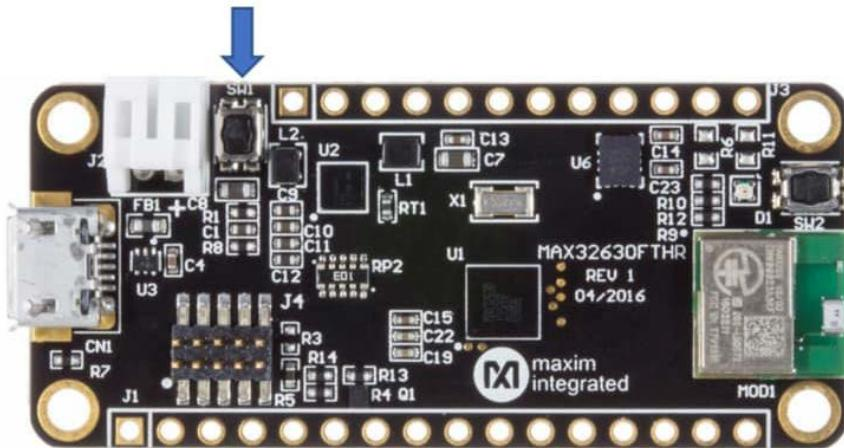

Figure 12. The reset button is SW1 on the MAX32630FTHR.
11. Press the reset (**SW1**) button on the MAX32630FTHR, as displayed in Figure 12.